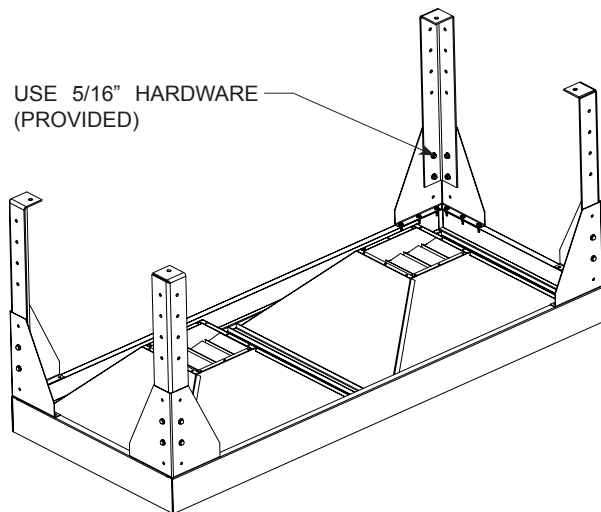

FIG. 1
2. Place leg on the inside of leg bracket. Align holes in leg to corresponding holes in leg bracket (See **FIG. 1**). The leg can be installed in three different positions. The shortest position will give an approximate table height of 30", the middle setting 33" and the tallest setting 36".